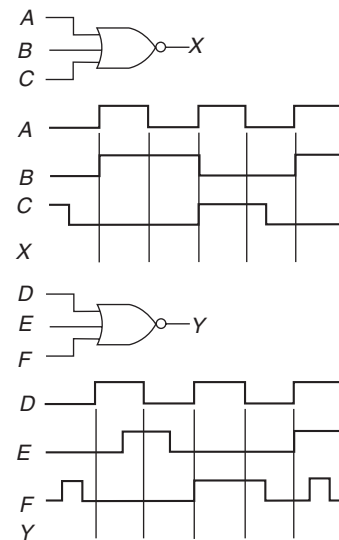

Fig. 4.62
4.54 Sketch the output at X and Y in Fig. 4.62, given the input waveforms.